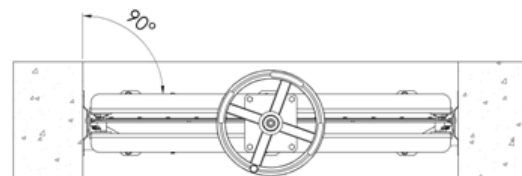

Figure 6
- Position the channel gate in the existing channel. Make sure that the gate is perfectly aligned and centered in the channel (see Figure 6).